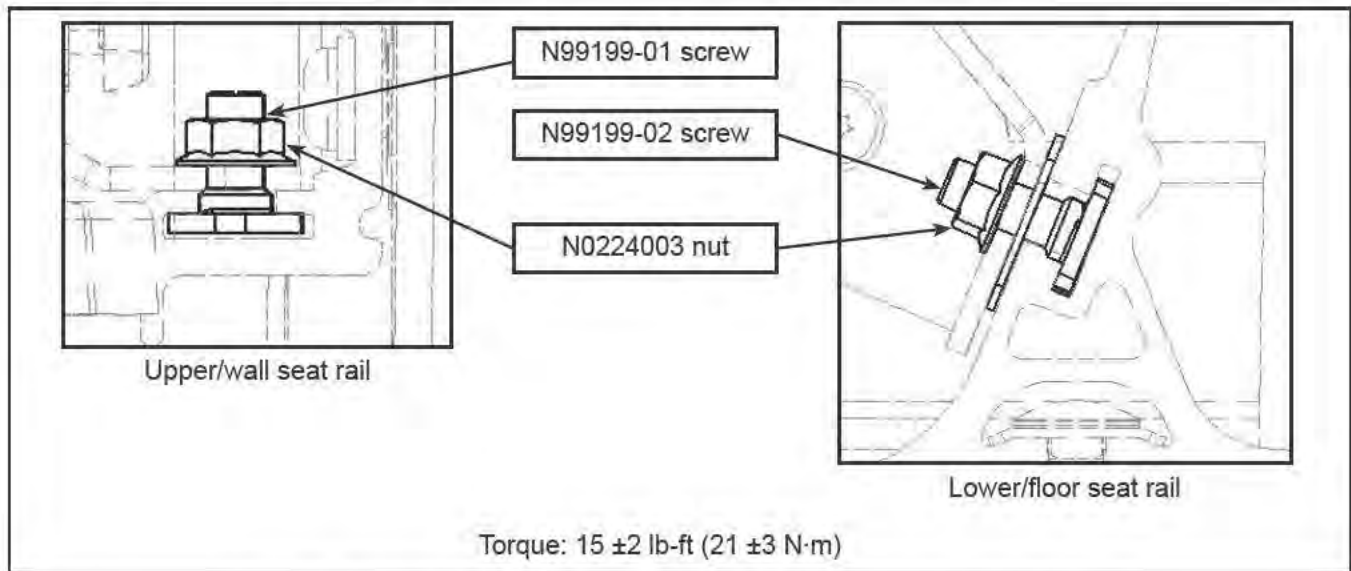

Figure 9 - Seats Fasteners and Torque on Upper/Wall and Lower/Floor Seat Rail
- Torque the nuts to the torque value shown in Figure 9.